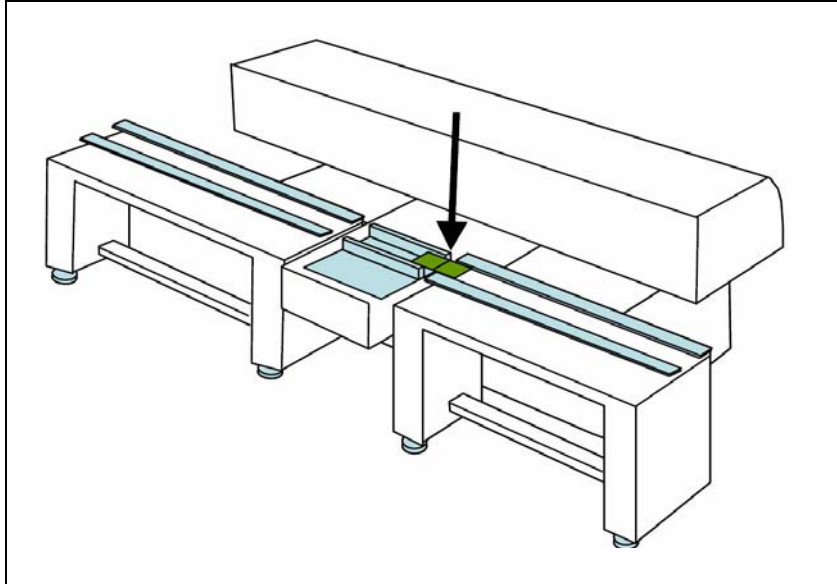

Figure 2-36. Double-check alignment between upstream conveyor fixed rail and T conveyor fixed rail.
5. Double-check the Z-Angle alignment in the previous step by positioning one board on the upstream conveyor and one board on the T conveyor, and make them touch each other. See Figure 2-36 for details. The gap between the boards as seen from above should be less than 0.1 mm or 4mils. If not, repeat step 4 above. Keep the boards positioned for the next step.